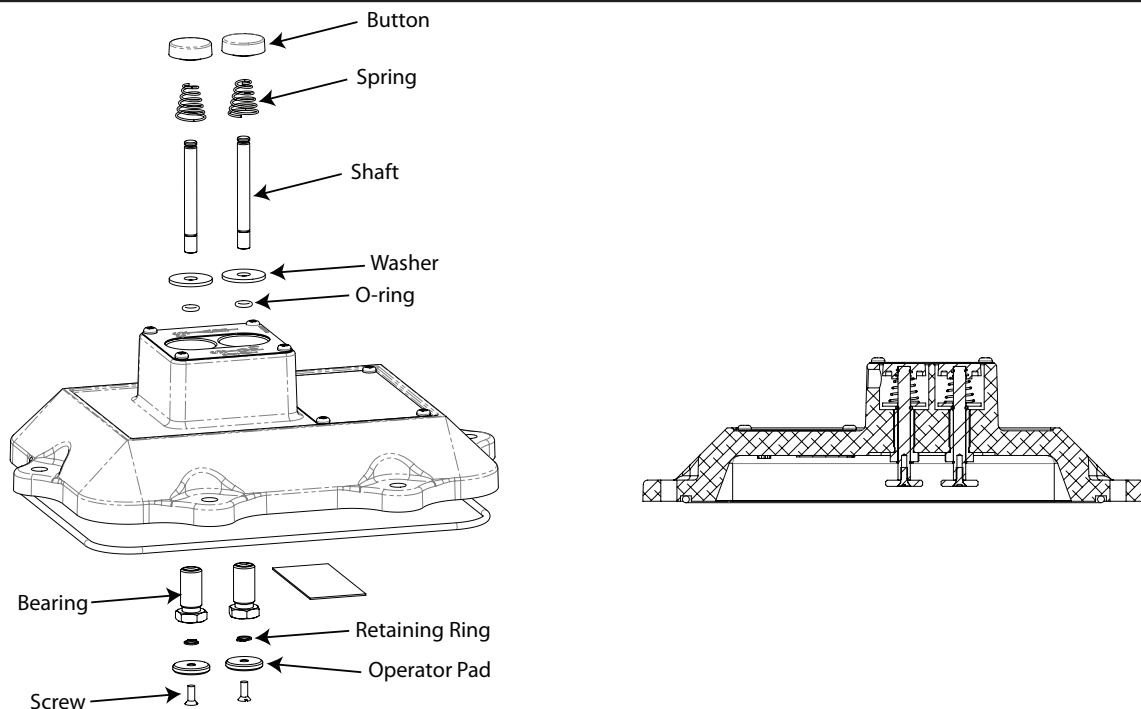

Figure 1
- d. Insert the spring, washer, and o-ring onto the shaft as shown in Figure 1.
- e. Insert this shaft assembly into the cover as shown in Figure 1.
- f. Using retaining ring pliers, install the retaining ring as shown in Figure 1. This will ensure the shaft is properly retained in the assembly. Failure to install the retaining ring will allow the shaft to easily be removed and the explosionproof joint to be compromised.
- g. Hold the shaft with protected jaw pliers to prevent damage to the shaft. While holding shaft, install screw and operator pad as shown in Figure 1. Tighten screw down fully and ensure that operator pad is secured in place.
- h. Button on front of cover should be flush +/- .03 with adjacent cover surface. If this is not the case, check the steps and make sure the operator has been installed as shown in Figure 1. Also, make sure that the button has been fully put on the shaft.